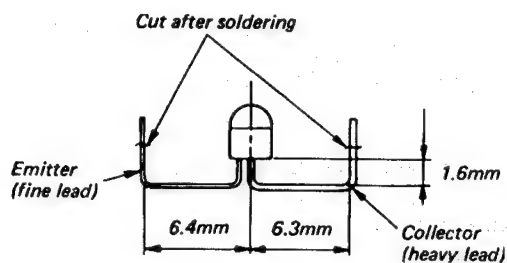

Fig. 1-3-11 Forming of photo transistor leads
- Bend leads of a new photo transistor as shown in Fig. 1-3-11.